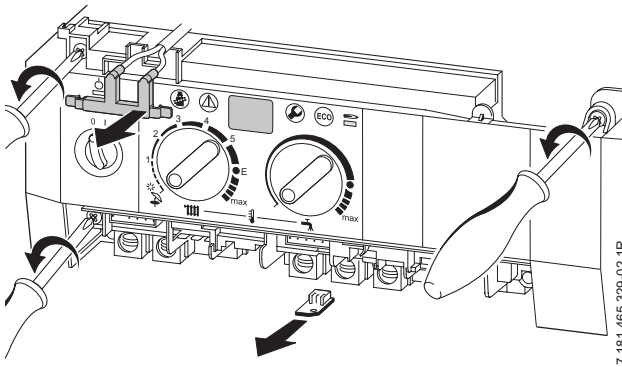

Fig. 60
- ▶ Remove two top fixing screws from the control box. Refer to fig. 60.